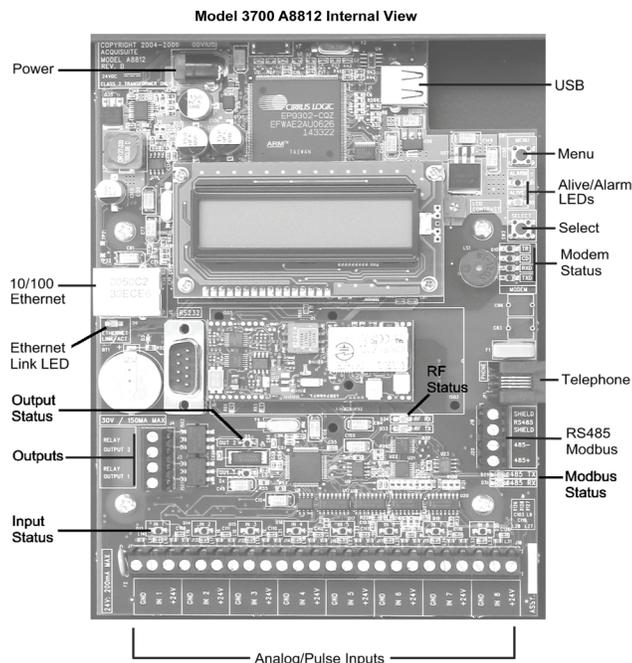

Figure 1: Electrical connections
4. Optional: Connect the Modbus network loop. See *Figure 1*. Follow the manufacturer's instructions for installing and powering the Modbus devices. Verify that the Modbus address settings are unique for each device (for instance, no two devices with the same address) and power up the device. Connect each device in the chain by "daisy-chaining" the devices together. Observe positive (+) and negative (-) polarity on the Modbus devices.